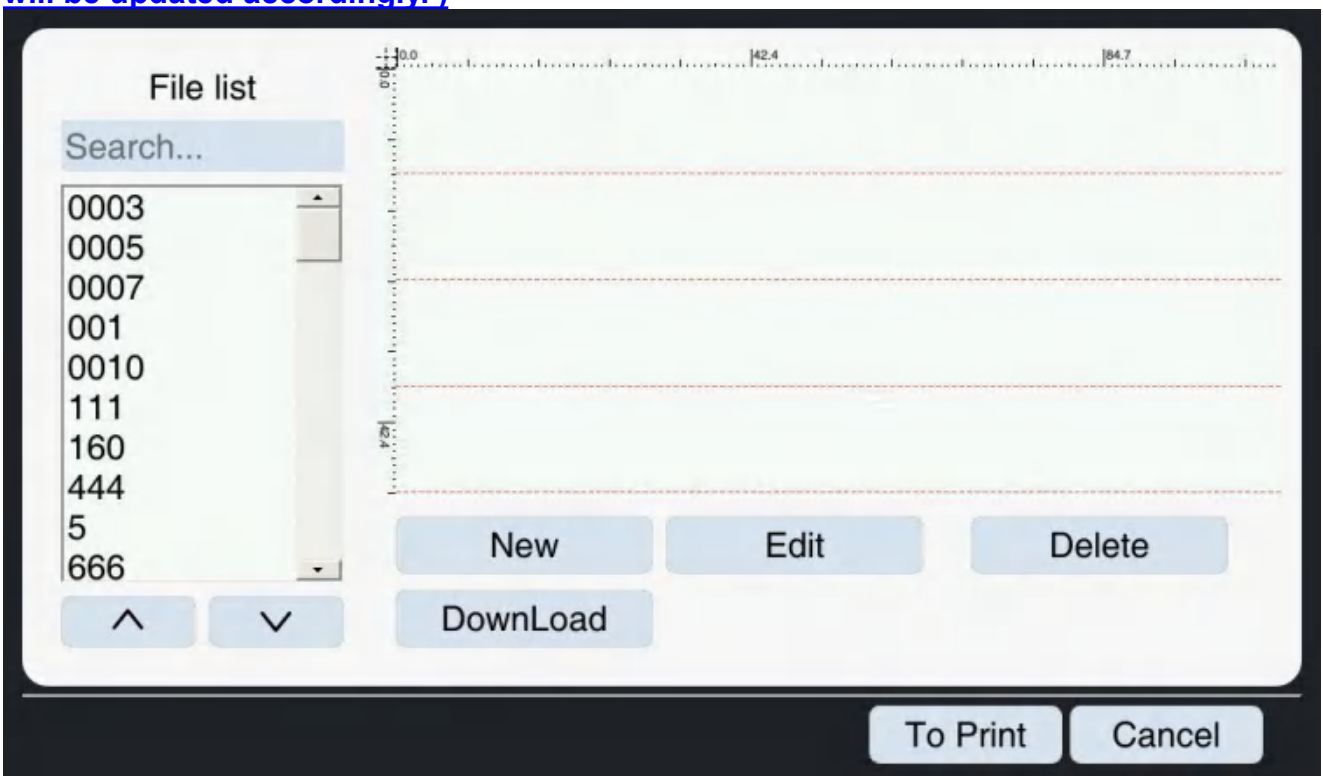

Figure 4-2 File Selection Interface
2. After selecting the desired file from the list, a preview of the file content will be displayed on the right side of the screen. As shown in Figure 4-2.